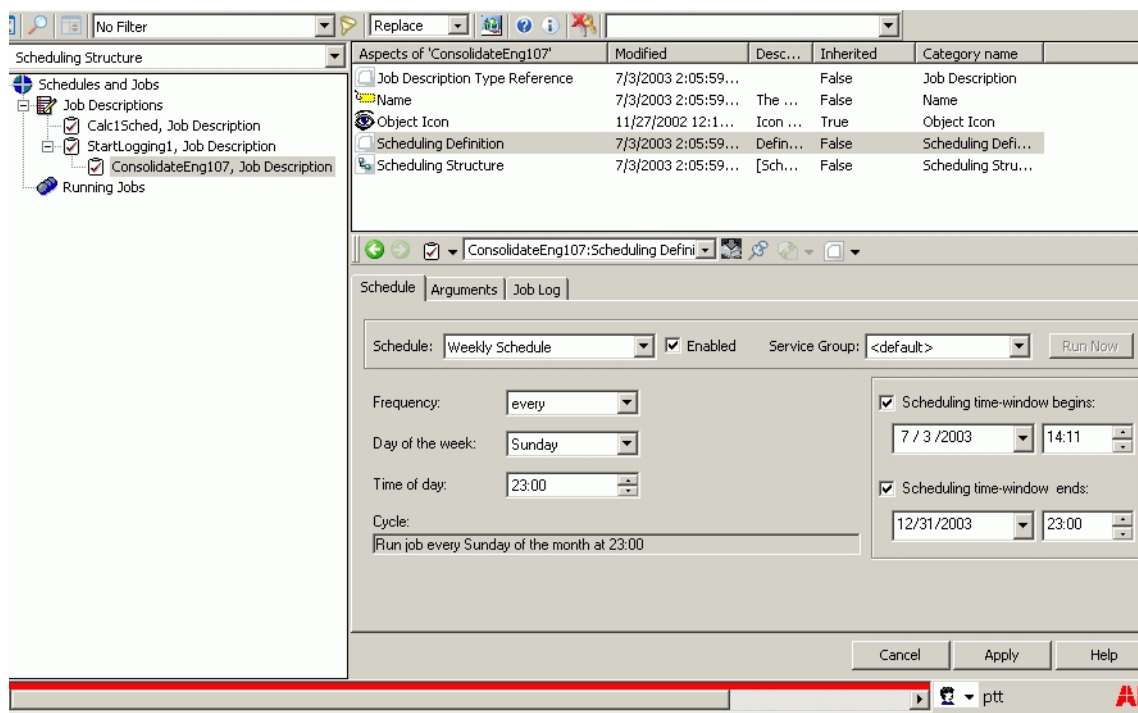

Figure 294. Scheduling Definition Configuration View
5. Click on the **Scheduling Definition** aspect to display the configuration view, Figure 294. This figure shows the scheduling definition aspect configured as a weekly schedule. Consolidation for the specified node will occur every Sunday at 11:00 PM, starting July 3rd, and continuing until December 31st at 11:00 PM.